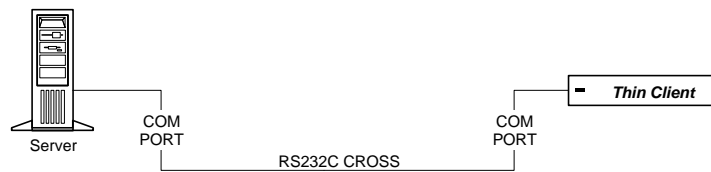

Figure 6 Direct Connection through RS232
- If Direct Connection through RS232 is desired, connect RS232 cross cable from a Thin Client serial port to a Server serial port (See Figure 6).